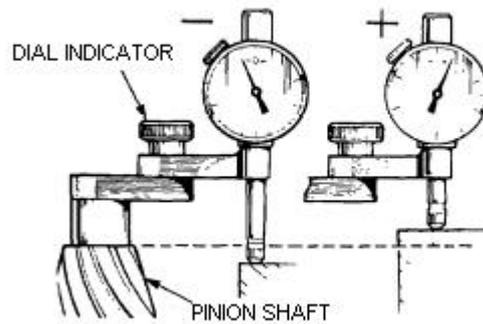

**Figure 222 Measuring the Pinion Shaft Height**
- j. Position the magnetized base of the dial indicator on the pinion shaft end face and rest the stylus on the lowest point of one differential bearing cup bore (Figure 222). Note the dial indicator deviation from the zero setting.